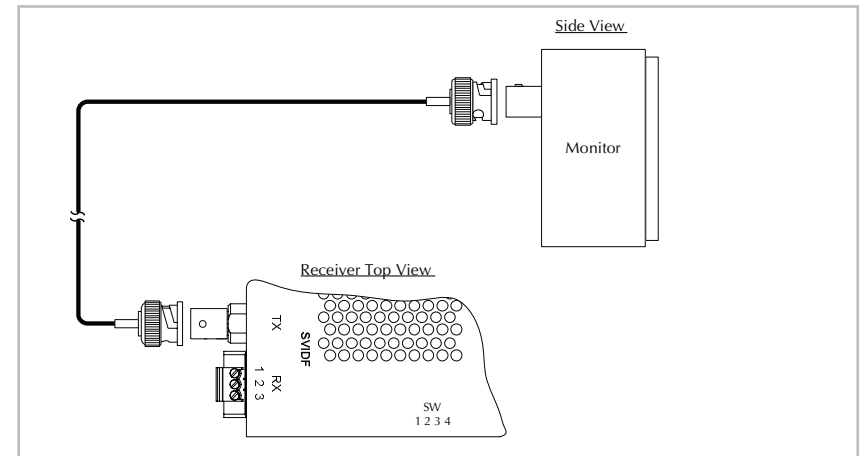

Figure 12: Receiver to Monitor 75-ohm Coax Cable Connection
2. Insert the coax cable into the receiver and monitor, as shown in Figure 12.